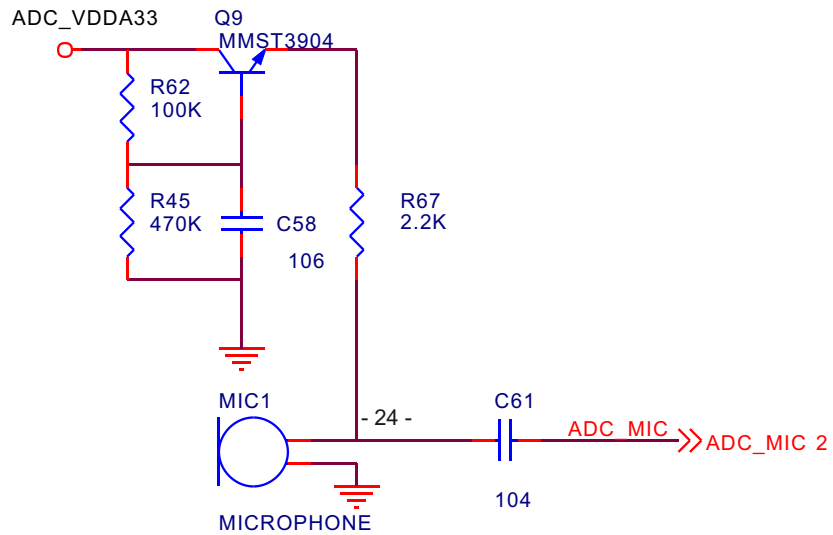

Figure 3.2.12.1 MIC circuit schematic diagram
1. MIC circuit schematic diagram is shown in the figure 3.2.12.1: